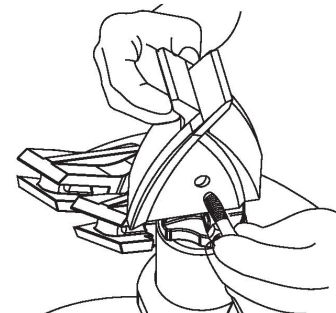

Figure 15
- Place the pilot on the bottom of the bit, and secure with the nut and bolt. See Figure 15.